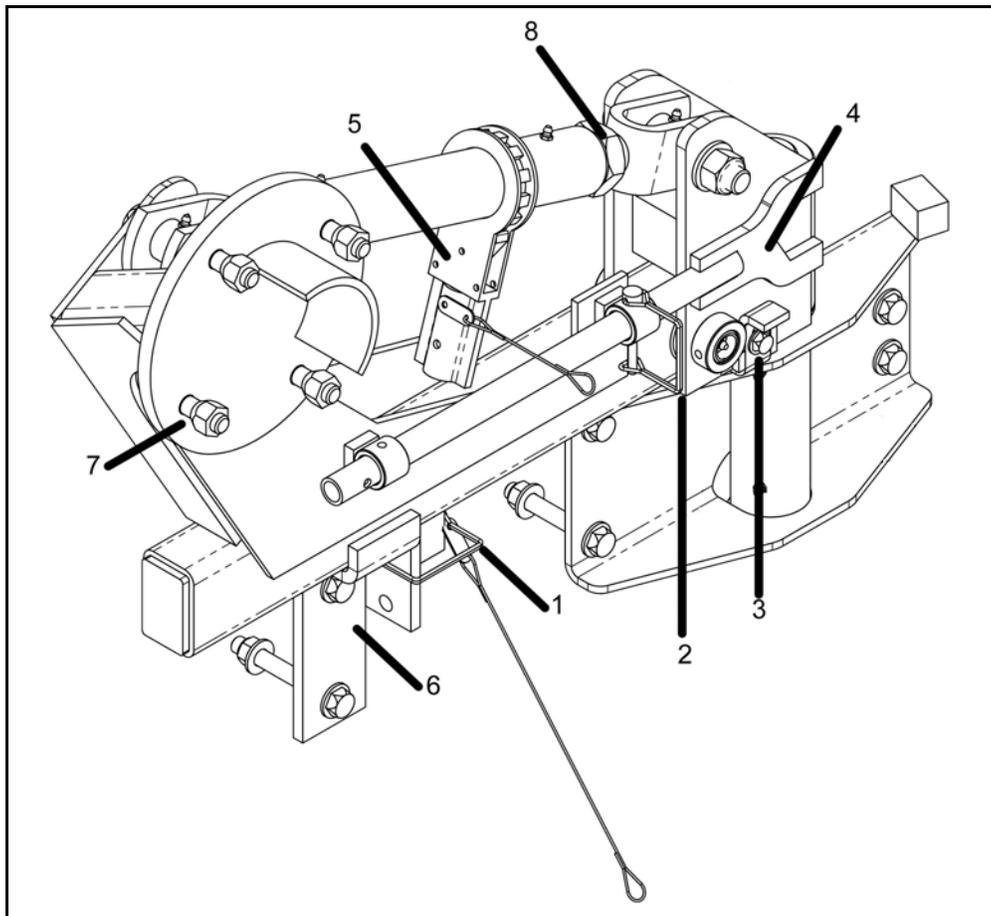

FIGURE 5-1
General Operation (Refer to Figure 5-1)
To Swing Open the Drop Down Spare Tire Carrier Assembly (Refer to Figure 5-1)
1. Remove the Handle Wrench (4) from the mounting rings on the Main Arm by disconnecting the Handle Wrench Safety Pin (2) as shown in Figure 5-1.
2. Rotate the Ratchet Jack (5) by hand until the ratchet faces outward.
3. Insert the Handle Wrench (4) into the Ratchet Jack (5) and fasten using Handle Wrench Safety Pin (2) as shown in Figure 5-1.
4. Remove the Main Arm Safety Pin (1) in preparation for raising the Main Arm.
To Swing Closed the Drop Down Spare Tire Carrier Assembly (Refer to Figure 5-1)
1. Ensure the spare tire carrier is in its fully-raised position, or that it's high enough to clear the Bumper Lock (6) shown in Figure 5-1.
2. If the spare tire carrier is in the locked-open position, unlock it by pushing up on the Stop Latch (3).
4. Ratchet the spare tire carrier downward until it just touches with the Bumper Lock (6). **Do not use the Ratchet Jack (5) to force the Main Arm down into the Bumper Lock (6).**
5. Remove the Handle Wrench (4) from the Ratchet Jack (5) by first removing Handle Wrench Safety Pin (2).
6. Rotate the Ratchet Jack (5) downward into the stored position shown in Figure 5-1. The Ratchet Jack should be positioned between the back plate on the Main Arm and the Handle Wrench (4).
7. Slide the Handle Wrench (4) through the mounting rings on the Main Arm, and secure using Handle Wrench Safety Pin (2).
To Raise the Drop Down Spare Tire Carrier Assembly (Refer to Figure 5-1)
To Secure the Spare Tire to the Drop Down Spare Tire Carrier Assembly (Refer to Figure 5-1)
2. Tighten the four Lug Nuts (7) shown in Figure 5-1 to 90 lb-ft (122 Nm)